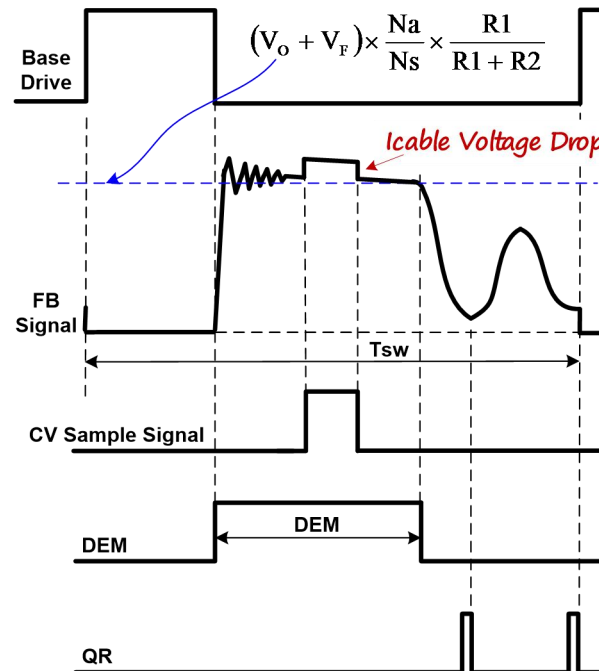

Fig.2
In Primary Side Regulation (PSR) control, the output voltage is sensed on the auxiliary winding during the transfer of transformer energy to the secondary. Fig.2 illustrates the timing waveform of CV sampling signal, demagnetization signal (DEM) and quasi-resonant (QR) trigger signal in DP3773C. When the CV sampling process is over, the internal sample/hold (S&H) circuit captures the error signal and amplifies it through the internal Error Amplifier (EA). The output of EA is sent to the Quasi Resonant PSR CV Modulator (QR-CVM) for CV regulation. A valley is selected to trigger new PWM cycle by the output of the QR-CVM block, which is determined by the load. The internal reference voltage for EA is trimmed to 2V with high accuracy.
During the CV sampling process, an internal variable current source is flowing to FB pin for Cable Drop Compensation (CDC). Thus, there is a step at FB pin in the transformer demagnetization process, as shown in Fig.2. Fig.2 also illustrates the equation for “demagnetization plateau”, where Vo and VF is the output voltage and diode forward voltage; R1 and R2 is the resistor divider connected from the